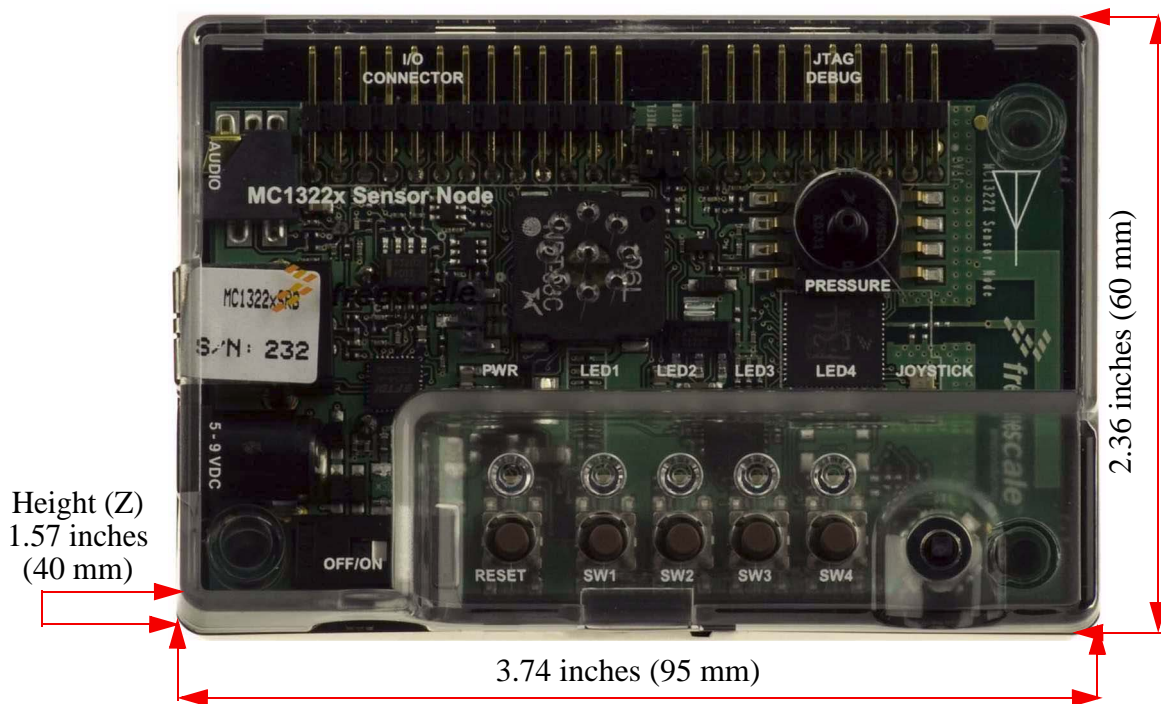

Figure 2-1. 1322x Sensor Node
- The MC1322x Sensor Node is available with either the MC13224 or the MC13226. The MC13226 version is identified by exception from the MC13224 version. For the MC13226, the node PCB has a special “13226-SRB” label located over the F-antenna on the left side of the PCB as viewed in Figure 2-1.